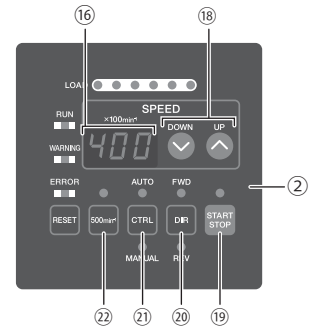

Fig. 24
15 - 1 Selecting Control Mode (MANUAL / AUTO). (Select the control button (CTRL) ⑲ of the Fig. 24.)
- (1) Using the CONTROL (CTRL) Button you can select between Manual (Front panel control) or Auto (External Signal Source) modes. External Signal Source can be used to control Motor Start / Stop, Rotation Direction, Motor Speed etc. from an external control source (CNC).
- (2) When operating with the CONTROLLER Control Panel, push the Control Button (CTRL) of Fig. 24 and select MANUAL. The Manual LED will illuminate.
When operating from an External Signal Source, push the Control Button (CTRL) of Fig. 24 and select AUTO. The AUTO LED will illuminate.
- (1) Set Motor Rotating Direction (Set the Rotation Direction Button (DIR) ⑳ of the Fig. 24.)
- (2) Set 500 min⁻¹ (rpm) Centering Rotation (Set the 500 min⁻¹ Button ㉒ of the Fig. 24.)
- (3) Motor Start / Stop (Motor Start / Stop by pushing the Start / Stop Button (START / STOP) ㉑ of the Fig. 24.)
- (4) Setting Motor Speed (Set the Motor Speed Adjustment Button (SPEED ⬇ , ⬆) ⑱ of the Fig. 24.)
Setting parameter $P2$ to $0n$ will allow the motor speed to be adjusted in Auto Mode using the Motor Speed Adjustment Button (SPEED $\blacktriangle$, $\blacktriangledown$) ¹⁸ of the Fig. 24.